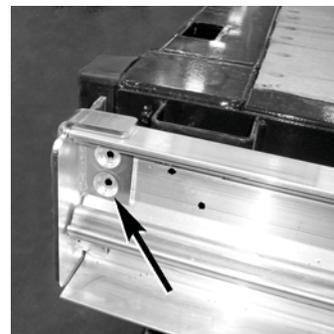

Figure 43
7) See **figure 43**. The rear rail stops were removed in step 2. Re-install them with the 1/2-13 x 1 3/4 FHCS with 1/2 flat washer and 1/2-13 nylon hex nut and tighten making sure the flat head cap screws are flush or slightly below the surface.